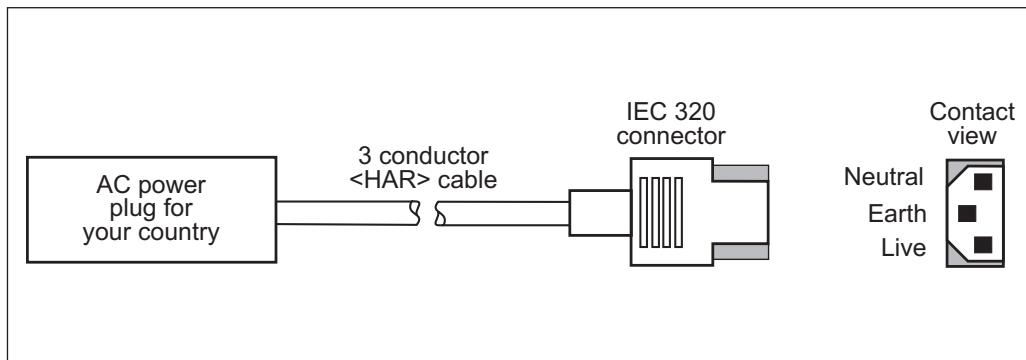

Figure 37
- The chassis ground (earth) MUST be connected to assure safety and reduce electromagnetic interference. The ground connection is handled by the third wire (earth) in the power line cord. See Figure 37.